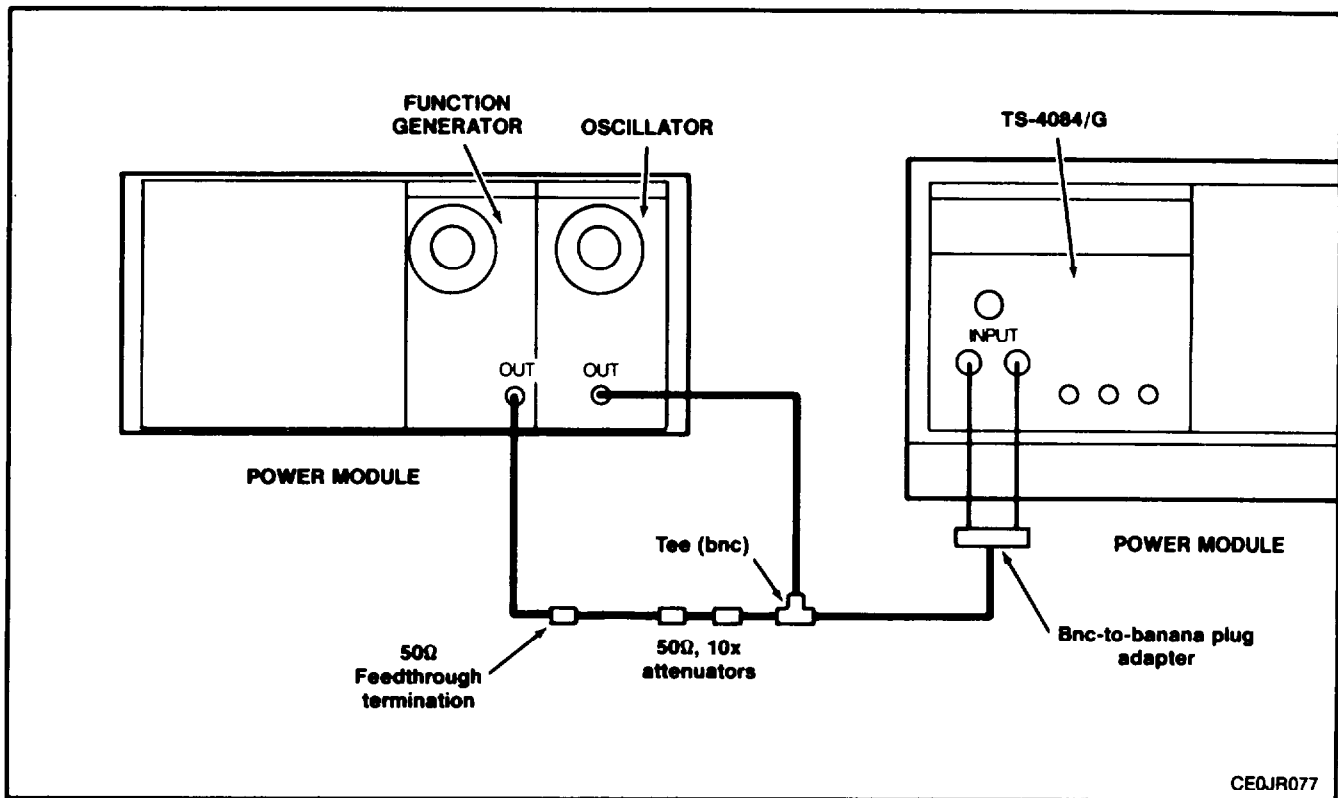

Fig. 4-1. TS-4084/G check/adjust setup.
- a. Connect test equipment as shown in Fig. 4-1.